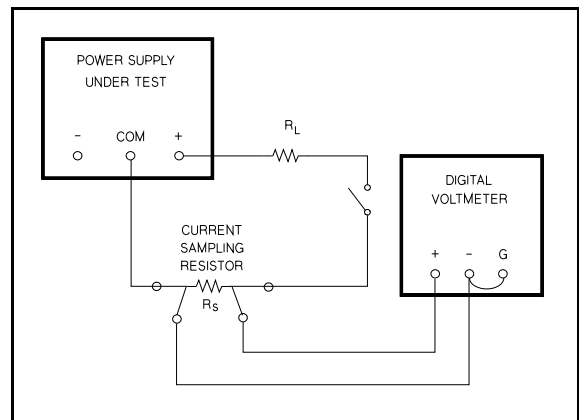

Figure A-5. Output Current, Test Set UP
- Connect the test setup shown Figure A-5 to the +6V output. Make the total resistance of R_L and the current sampling resistor equal to 2.4 Ω to permit operating the output at full load. R_L should have a power rating of at least 20 watts.
- Check the rated output and ammeter accuracy of the +20V and -20V supplies similarly by connecting the test setup of Figure A-5 to each output in turn. For each 20V supply: make the total resistance of R_L and the current sampling resistor 40 Ω , set the $\pm 20\text{V}$ VOLTAGE control for a current indication on the DVM of 0.5 A, check that the panel meter indication is within $\pm(0.5\% + 2 \text{ counts})$ of 0.5 A (0.48A to 0.52A).
- l. Connect the test setup shown in Figure A-5 to the +20-volt output. Substitute a short for R_L and leave the load circuit switch open.
- p. Connect the test setup shown in Figure A-5 to the +6V output. Close the switch, set the total resistance of R_L and the current sampling resistor to an initial value of 2.4Ω or greater, and set the output voltage to 6 volts.